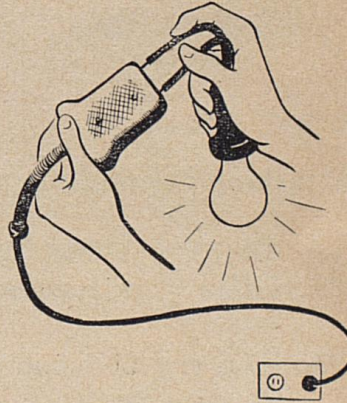

Fig. 6
1. Plug cord into convenience outlet. Fig. 6
2. Insert trouble lamp (weatherproof socket and bulb) into appliance plug. Fig. 6. If the lamp does not burn, the cord or plugs need to be repaired.